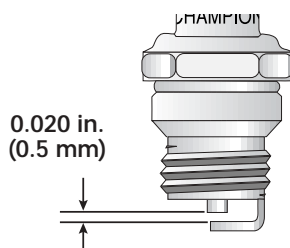

Figure 29
3. Replace cracked, fouled or dirty spark plug. Set the air gap at **0.020 in. (0.5 mm)** using a feeler gauge. See Figure 29.